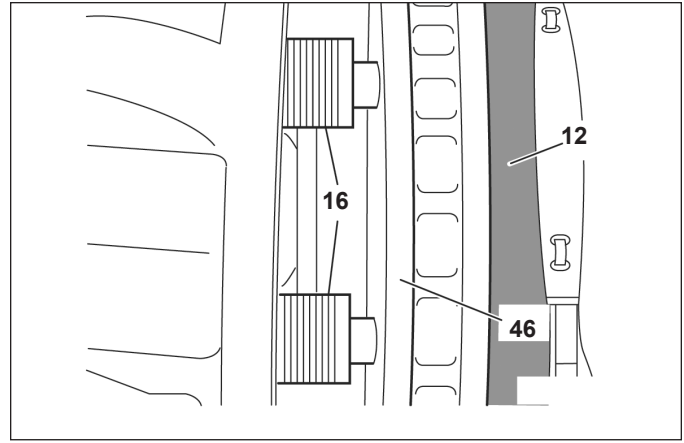

Figure 50 – Use of a New Brake Pad as a Spacer
4.5.10 Inspect the threaded tubes (16). See Figures 50 and 51. Extend the tubes, but by less than 1.75 in. (44.5 mm), by turning the shear adapter (61) clockwise. Inspect the threads for rust, corrosion, or damage etc. If there is evidence of damage to the threads, significant rust, or corrosion, the caliper/carrier assembly must be replaced.
If the technician is working with the caliper on the vehicle, the technician may place a new brake pad (12) into the outboard gap to help avoid the loss of thread engagement of the threaded tubes. See Figure 50.